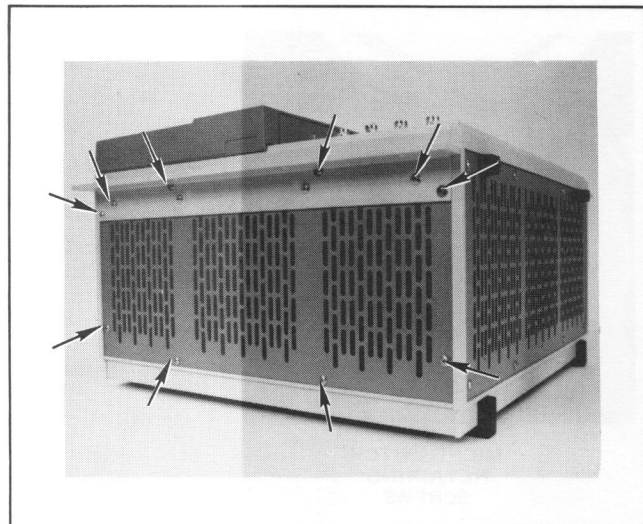

Figure 5-30. Rack Ear and Side Cover Removal
- a. Remove the rack mounting ears, if they are installed. Their screws are accessible from the sides (see Figure 5-30).